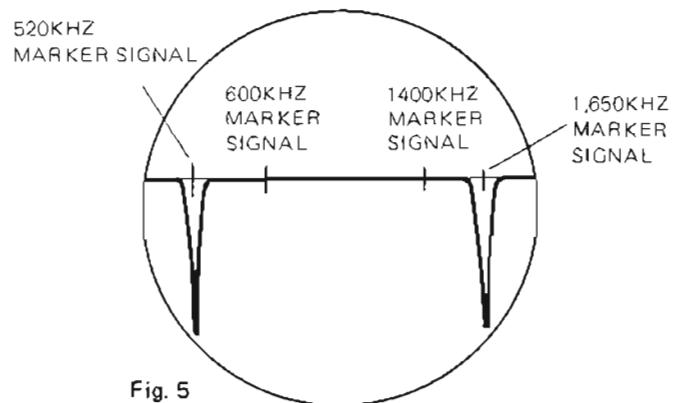

Fig. 5
- (2) The waveform displayed on the alignment oscilloscope is as shown in Fig. 5.